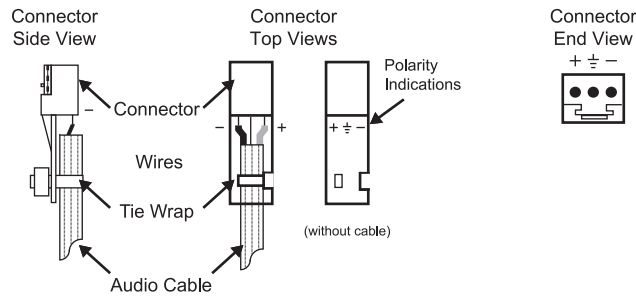

Figure 2.5 Connector Wiring for R1C-8732 and R2C-8732 Input Sockets
1. Insert an analog audio wire to the designated polarity slot on the connector of the rear module. **Figure 2.5**